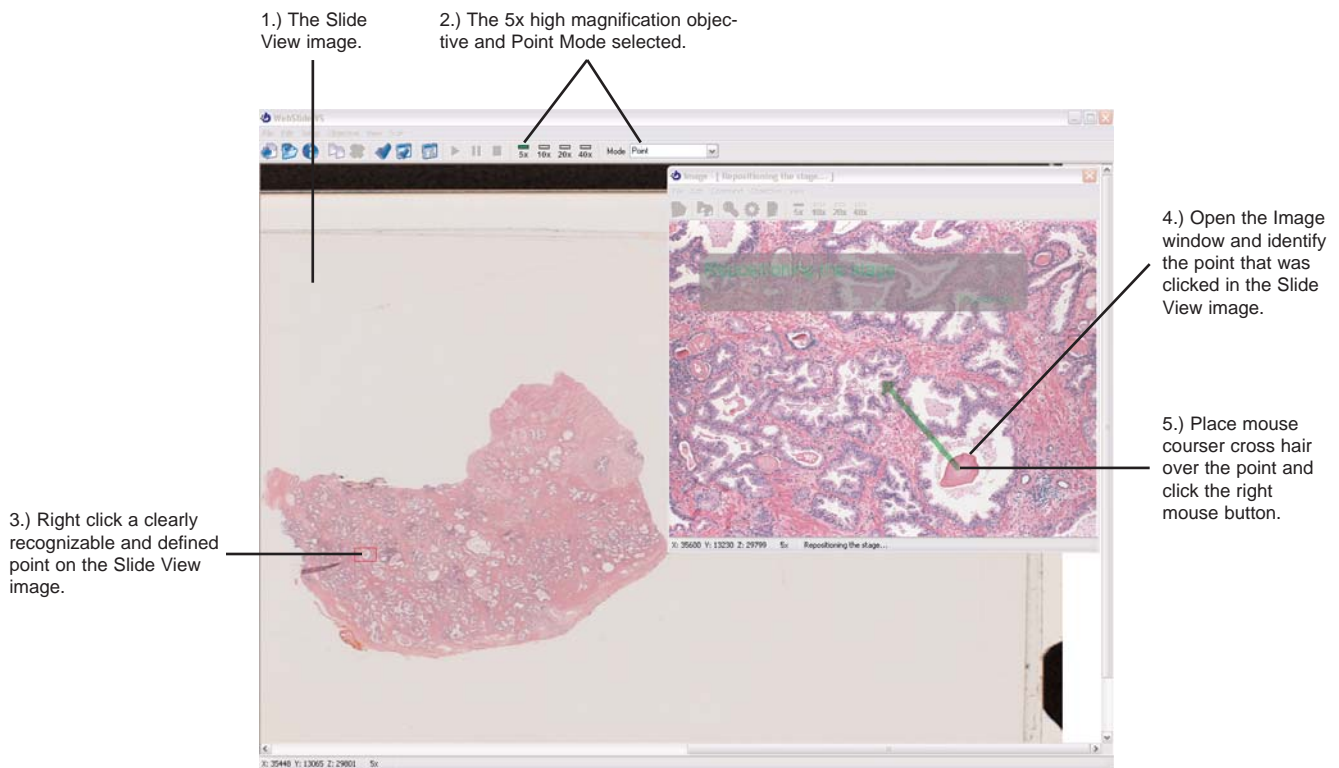

Figure 48. The steps in setting X Y offset.
- 5.) In the Image Windows, place the mouse cursor cross hair over the point that was clicked in the Image window and click the right mouse button as shown in Figure 48. The clicked point is centered under the COOLSCOPE VS instrument's objective and the Image window is updated.